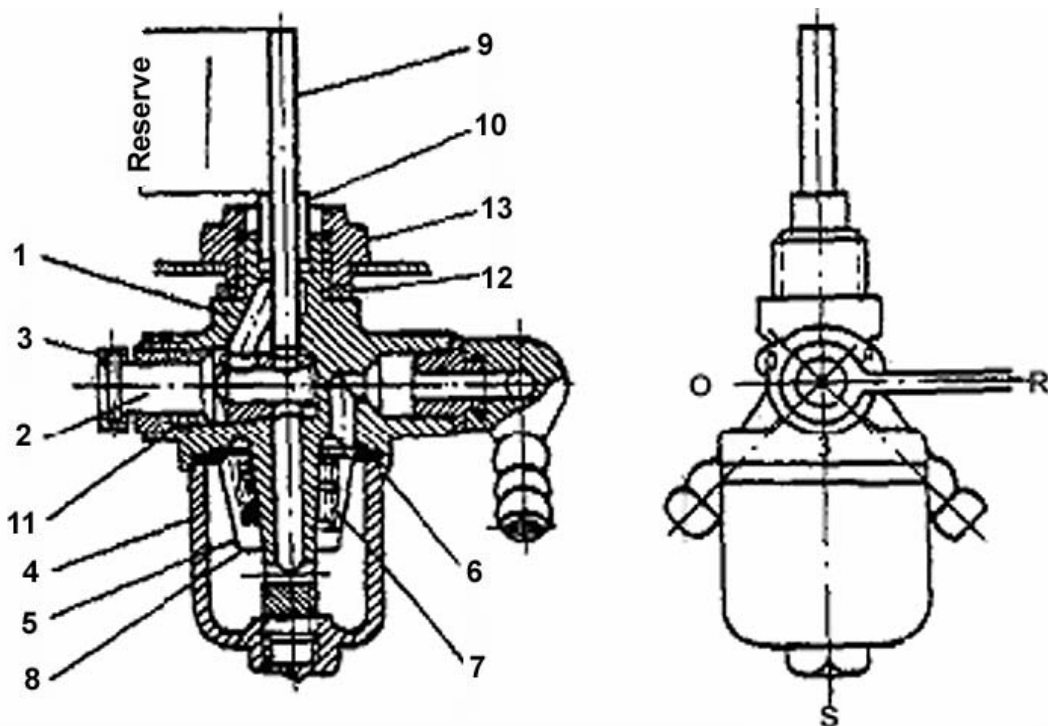

Fig. 4 The Fuel Petcock
2. The gasoline petcock open, (with lever turned to the right on the letter O - open - (fig. 4).